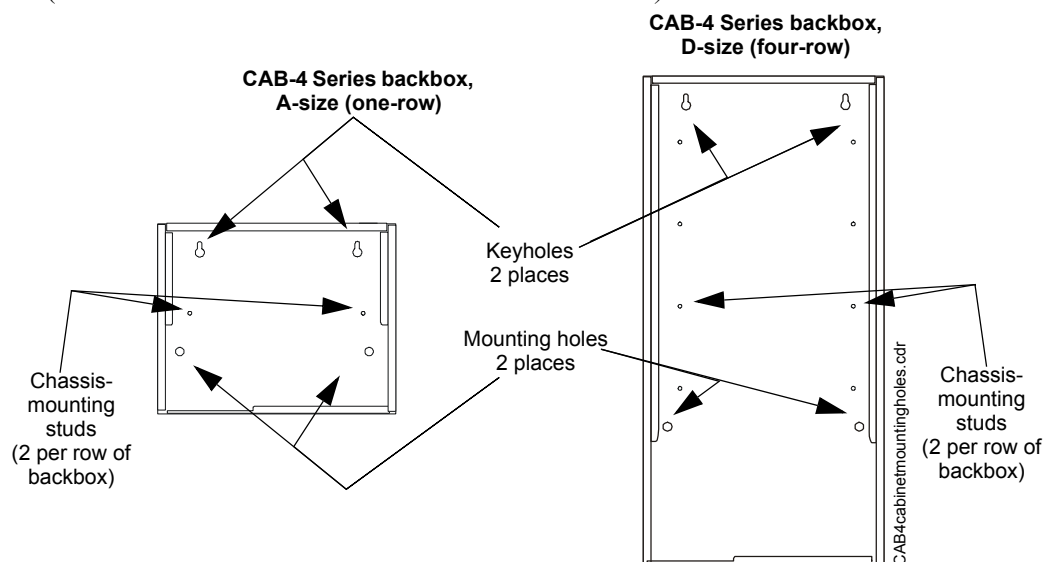
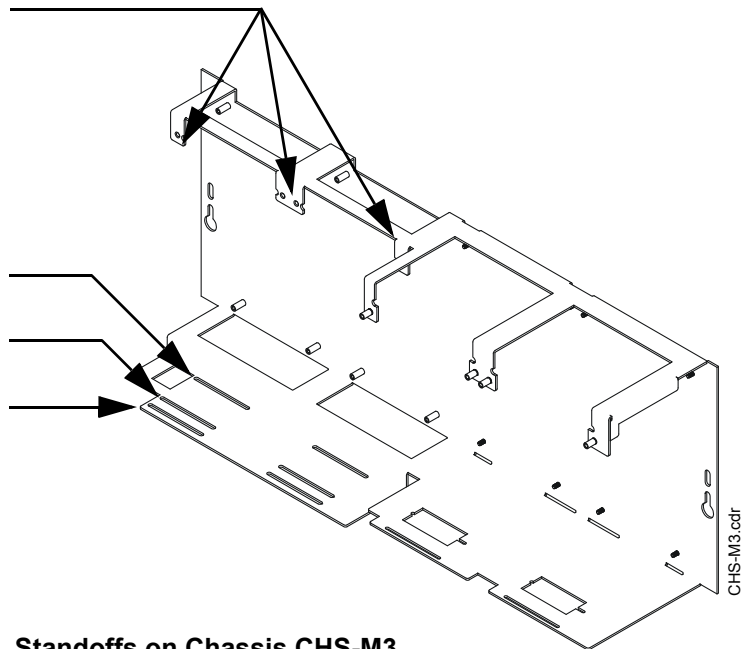

Figure 3.1 Backbox-Mounting Holes and Chassis-Mounting Studs
Figure 3.5 Standoffs on Chassis CHS-M3
- Use the four holes in the back surface of the backbox to provide secure mounting (See Figure 3.1).
1. Attach four stand-offs to chassis as shown in Figure 3.5.
2. Slide circuit-board tabs into slots on chassis as shown in Figure 3.5.
Align chassis-mounting slots with chassis-mounting studs (see Figure 3.1 and Figure 3.5 for locations). Secure with nut & lock-washer provided with chassis.